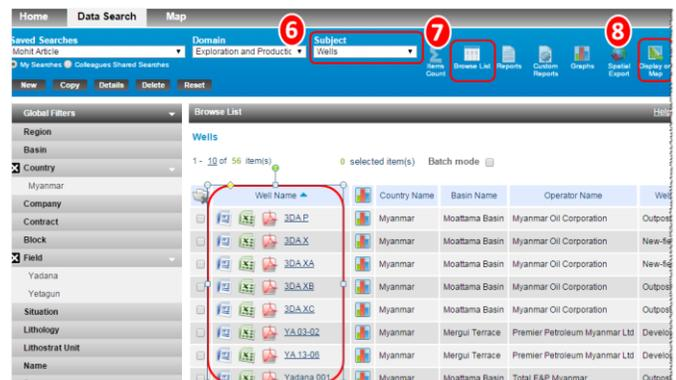
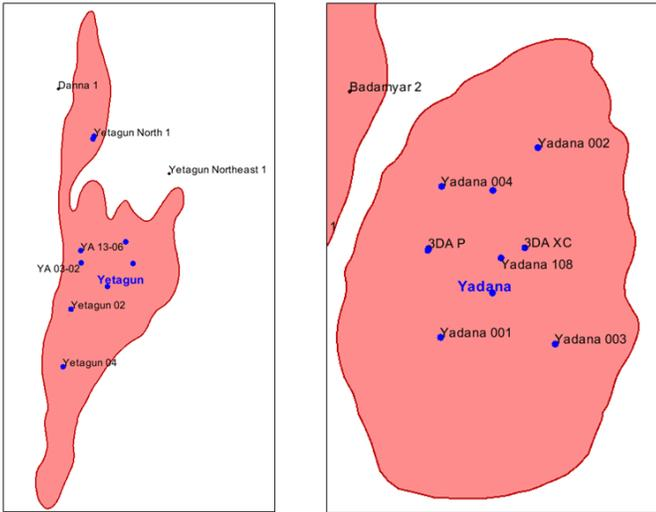

Fig 3-4: Workflow to Search Wells in Fields
Fig 3-5: Wells Distribution in Map
- (6) Switch **Subject** to Wells. Keep the same filters selected from left side. This will now populate number of wells drilled in these two fields (Fig 3-4).
- (7) Click **Browse List** icon to access and download individual well general report in Word/Excel/PDF format in which you can obtain detailed information like **well spud date, well class, content, operator, test results and scanned images etc.**
- (8) **Display On Map** function (Fig 3-4) will plot the fields and wells on map interface (Fig 3-5) which will reveal the distribution of wells. And you can add label for each of the entity.